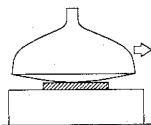

Fig. 4-5.
8. Replace the CRT with new one. For installation of the picture tube, reverse the above procedure. (Fig. 4-5)